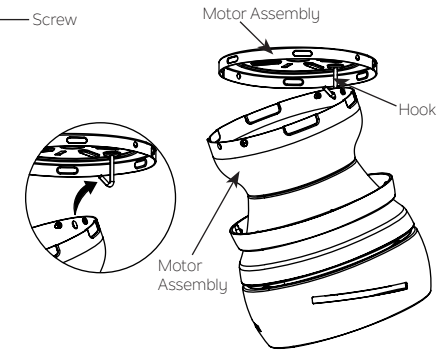

Fig. 6
**Step 3.** Hook the motor body onto the ceiling mounting bracket as shown. You can now proceed with the electrical wiring of your fan. (Fig. 6)